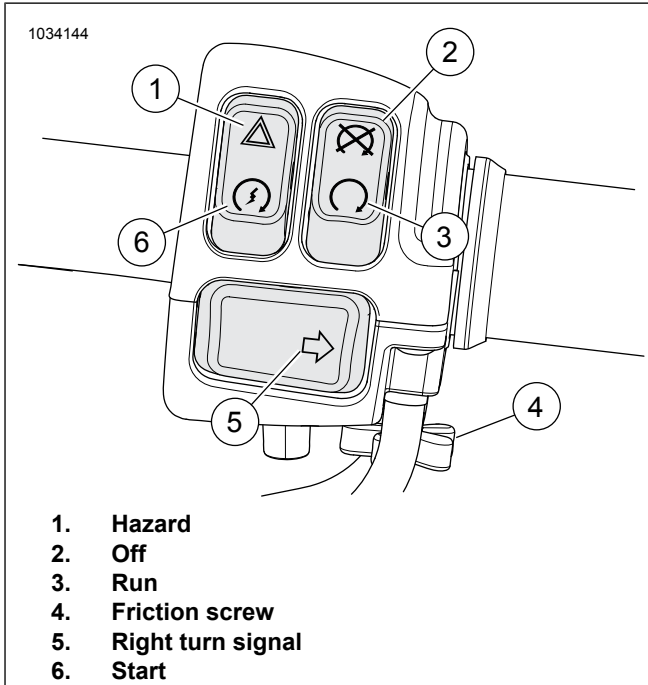

Figure 30. Right Hand Control Module
See Figure 30. Use this switch to allow a stranded motorcycle to be left in the 4-way flashing mode. With the flashers, the motorcycle can be left with the ignition locked until help is found. Refer to Table 29.
See Figure 30. The start switch is on the right handlebar control module. Refer to Table 29.
See Figure 30. Press the engine OFF switch to shut off the engine. Refer to Table 29.
See Figure 30. Push the engine RUN switch to enable engine start and run. The engine OFF/RUN switch must be in the RUN position to start or operate the engine. Refer to Table 29.
See Figure 30. To reduce rider fatigue on long trips, a spring-loaded throttle friction adjustment screw (4) is at the bottom of the throttle grip clamp. The throttle friction adjustment screw should not be used under normal stop and go operating conditions.
Activate: See Figure 30. Press the right turn signal switch to activate the right turn signal. Refer to Table 29.